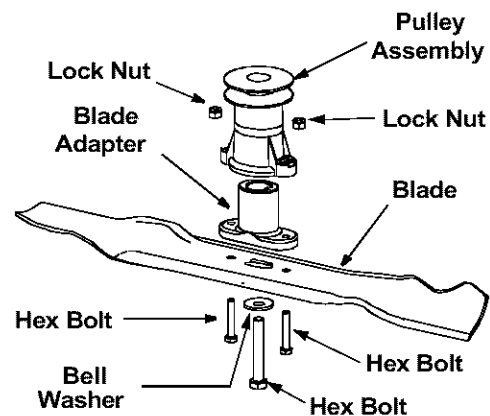

Figure 14
- Remove the bolt and the bell washer that hold the blade-pulley assembly to the engine crankshaft. See Figure 14. Remove the assembly from the crankshaft.
- Remove two bolts and lock nuts from the blade assembly. See Figure 14.
- Install the blade adapter on the pulley with the “star” away from the pulley. See Figure 14.